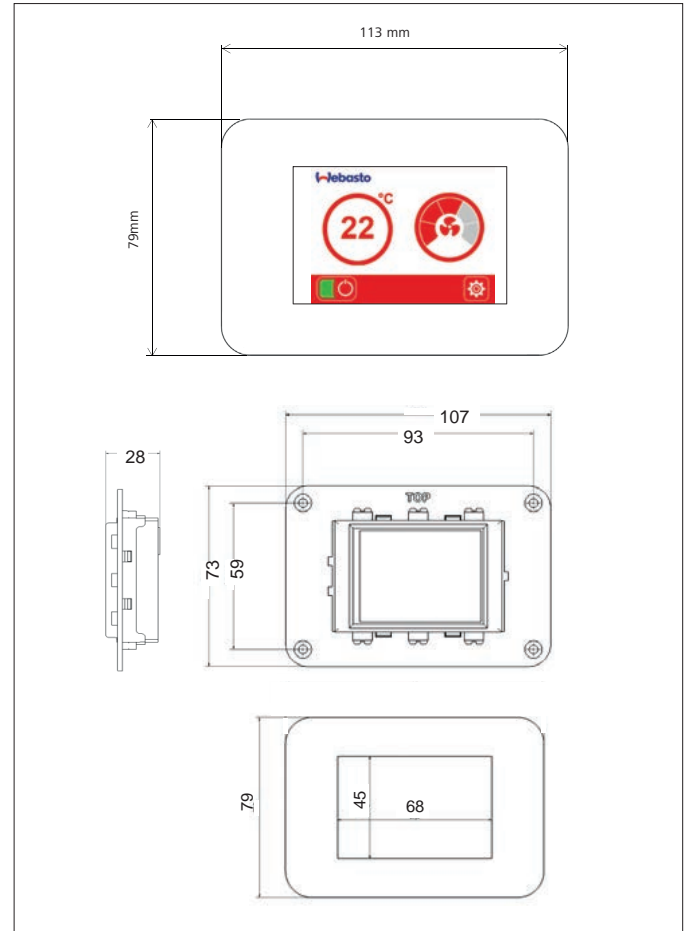

Fig.14 Installation BlueCool MyTouch
- ▶ Make the cutout for the control element in the required position. For cutout dimensions see Fig.14.